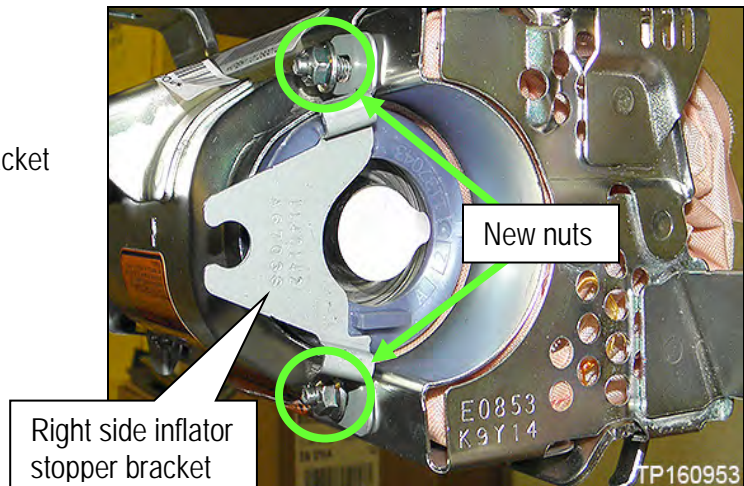

Figure 49
42. Install the new right side inflator stopper bracket (shown in Figure 49) with nuts finger tight.